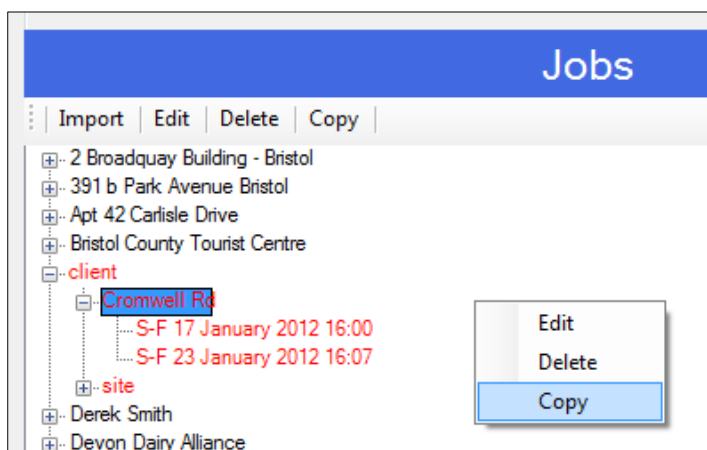

Figure 3.12 Selecting a site to copy
1. Select the site you wish to associate to a client (see Figure 3.12).